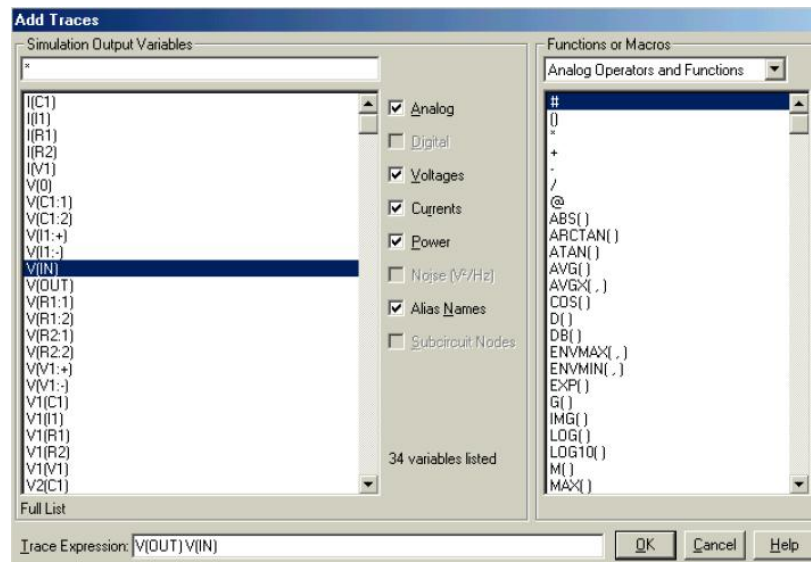

Figure 9. Add Traces window
- i) When adding traces you can perform mathematical calculations on the traces, as indicated in the Add Trace Window to the right of Figure 9.